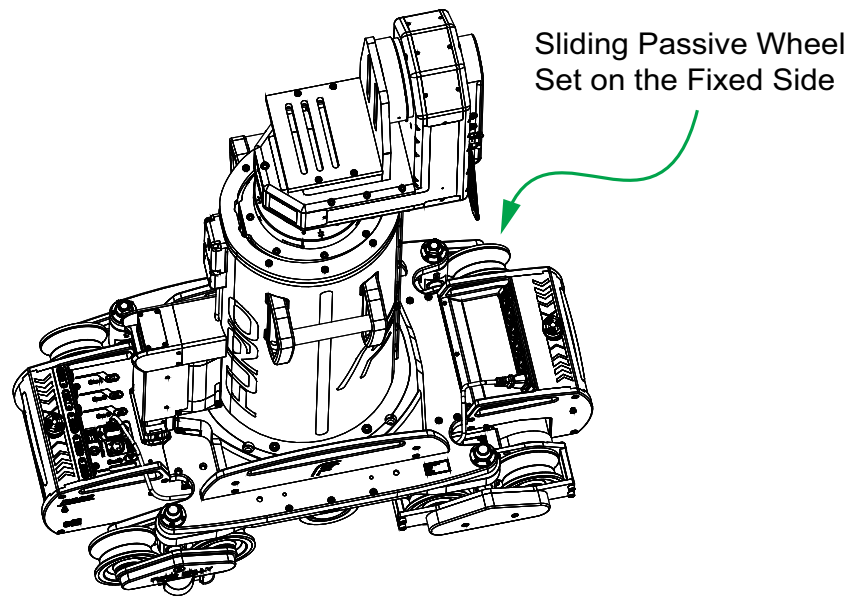

Figure 2 - Sliding Passive Wheel Set on the Fixed Side of the Dolly
1. Use a 17mm open-end wrench to remove the nut above the sliding passive wheel units on the fixed side of the dolly. Refer to **Figure 2**.